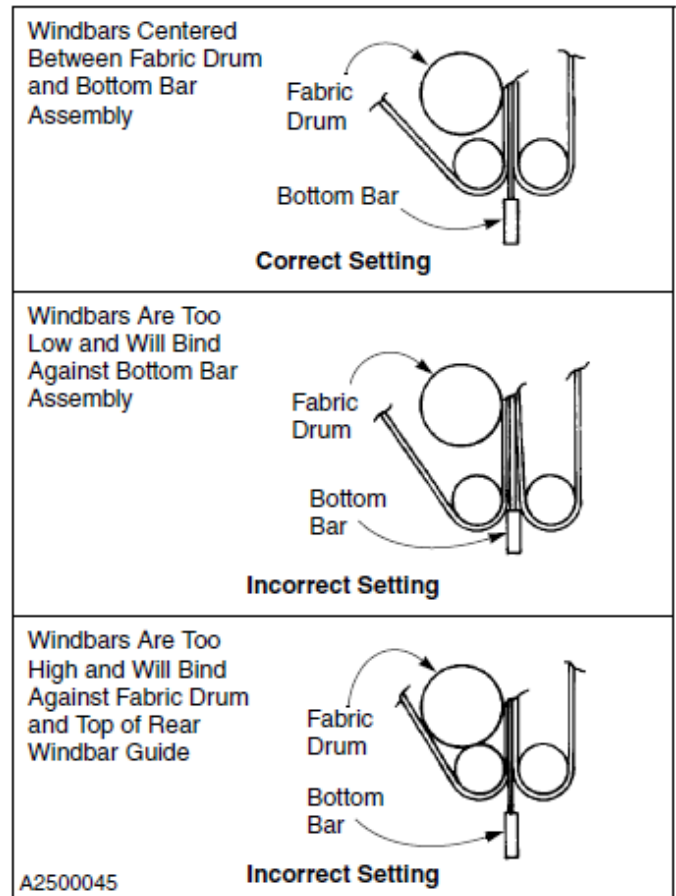

Figure 62
3. The windbar(s) should be in the position shown in Figure 62.